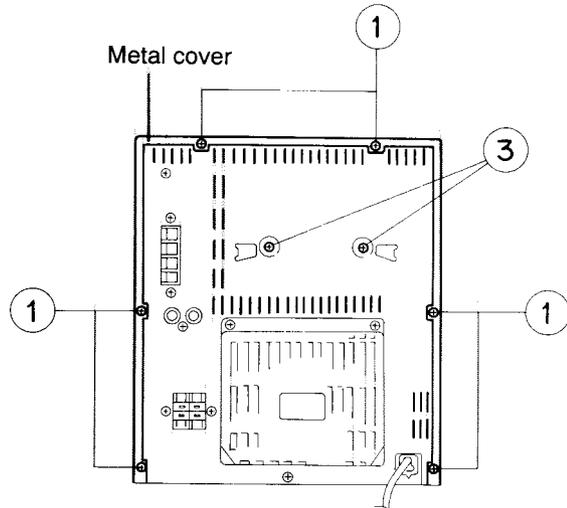

Fig.5-1
■ Removal of the Metal Cover (See Figs. 5-1,5-2)
1. Remove the six screws ① fastening the metal cover to the rear panel of the main unit. (See Fig. 5-1)
2. Remove the two screws ② fastening the metal cover to the side panel of the main unit. (See Fig. 5-1)
■ Removal of the CD Traverse Mechanism Assembly (See Figs. 5-1~5-4)
2. Remove the two screws ② fastening the CD traverse mechanism assembly to the rear panel of the main unit. (See Fig. 5-1)